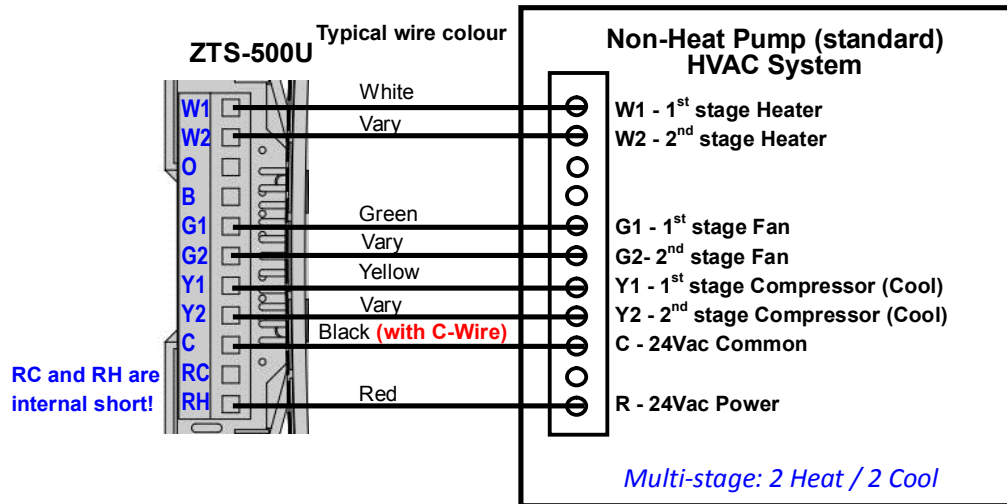

Figure 7. Non-heat pump (Standard Gas or Electric) HVAC system wiring
- For Non-Heat Pump HVAC systems, please refer to figure 7, 8, and 9.